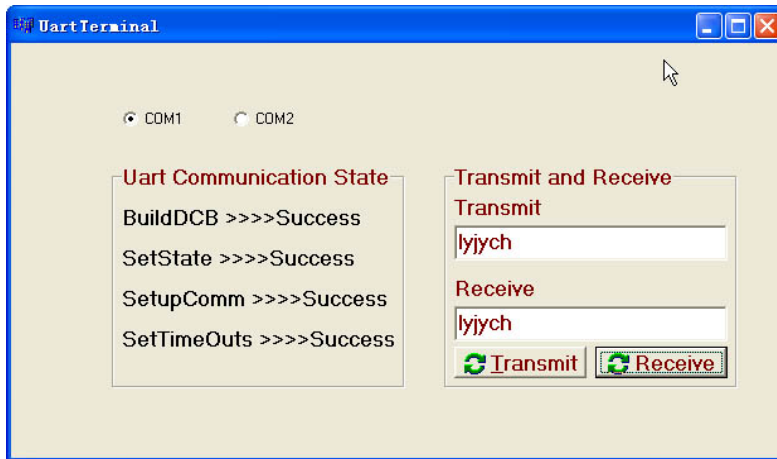

Figure 5-2 Terminal software interface
- Run the UartTerminal.exe on the PC, and then select COM1 as the transceiver channel. The software will initiate COM1 and display the success information as shown in **Figure 5-2**.